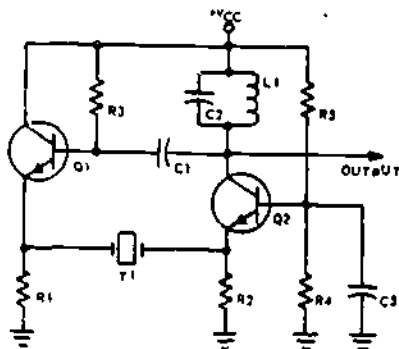

Figure 43-7
(NOTE: For questions 1 through 7, refer to the schematic diagram of figure 43-7).
2. Figure 43-7 is the schematic diagram of a _____ crystal oscillator.